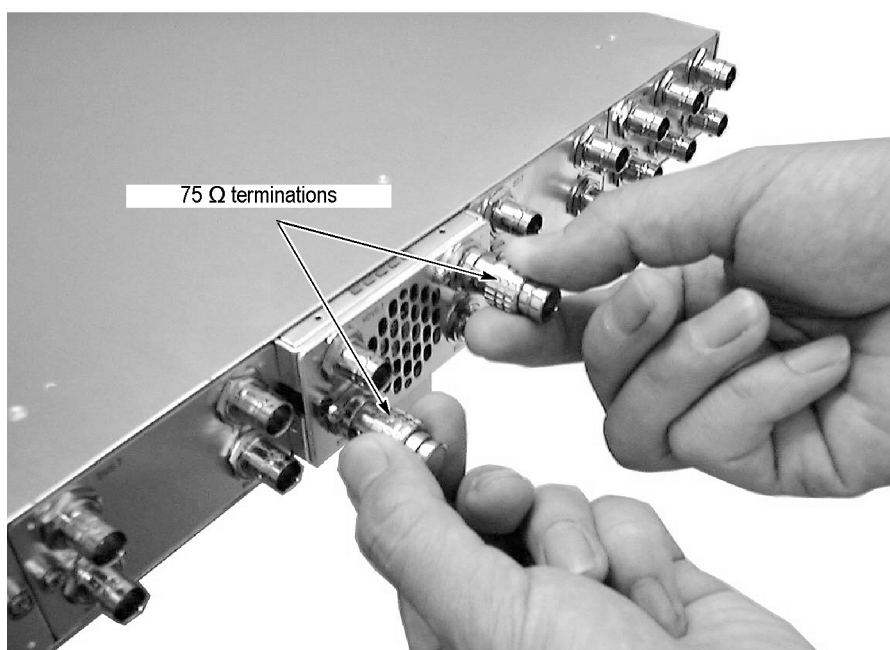

Figure 9: Removing the module
4. Pull the module slowly toward you while supporting the terminations or BNC cables attached to the connectors. (See Figure 9.)